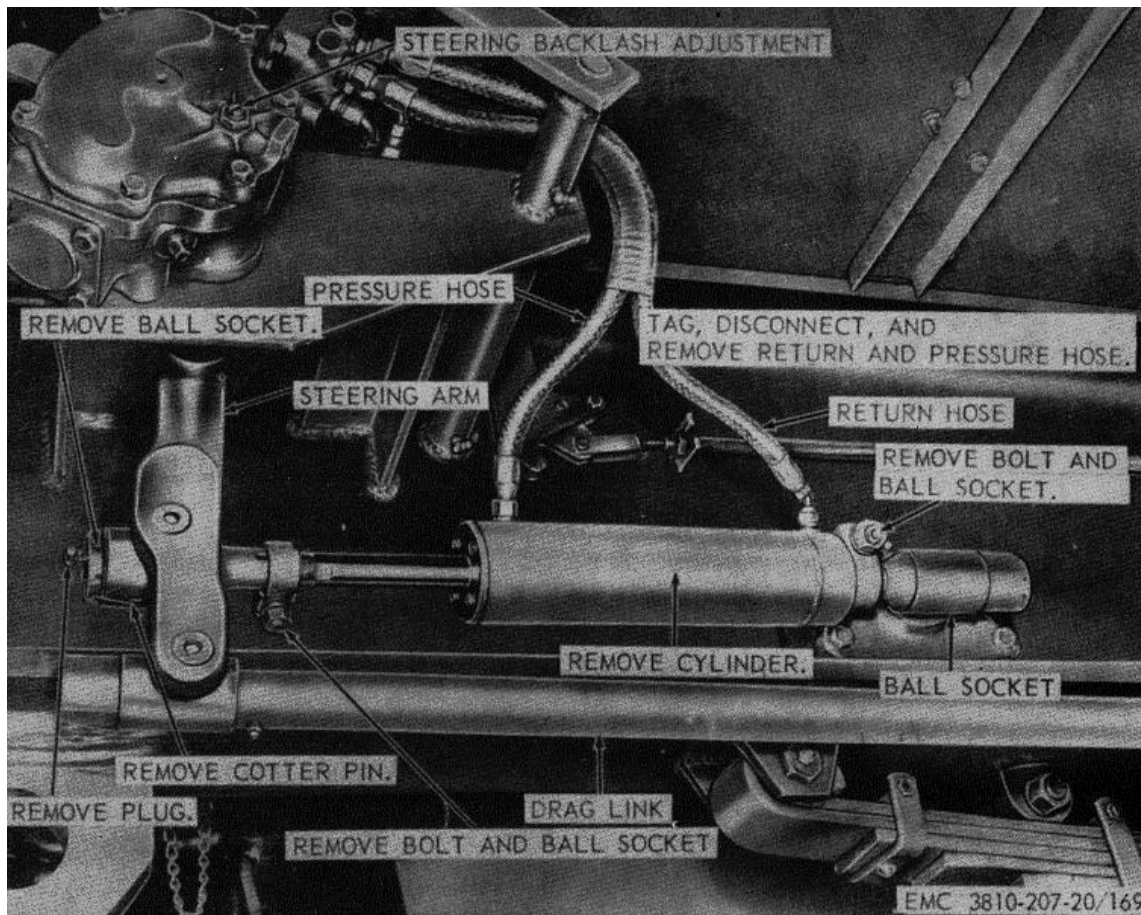

Figure 169. Carrier hydraulic cylinder, removal and installation.
a. *Removal.* Remove the hydraulic cylinder as instructed on figure 169.
- (1) Clean the hydraulic cylinder with an approved cleaning solvent.
- (2) Inspect the hydraulic cylinder for leaks, breaks, and other damage. Replace defective hydraulic cylinder.
c. *Installation.* Install the hydraulic cylinder as illustrated on figure 169.
a. To adjust steering assembly backlash, loosen locknut (fig. 169) and tighten side cover adjusting screw